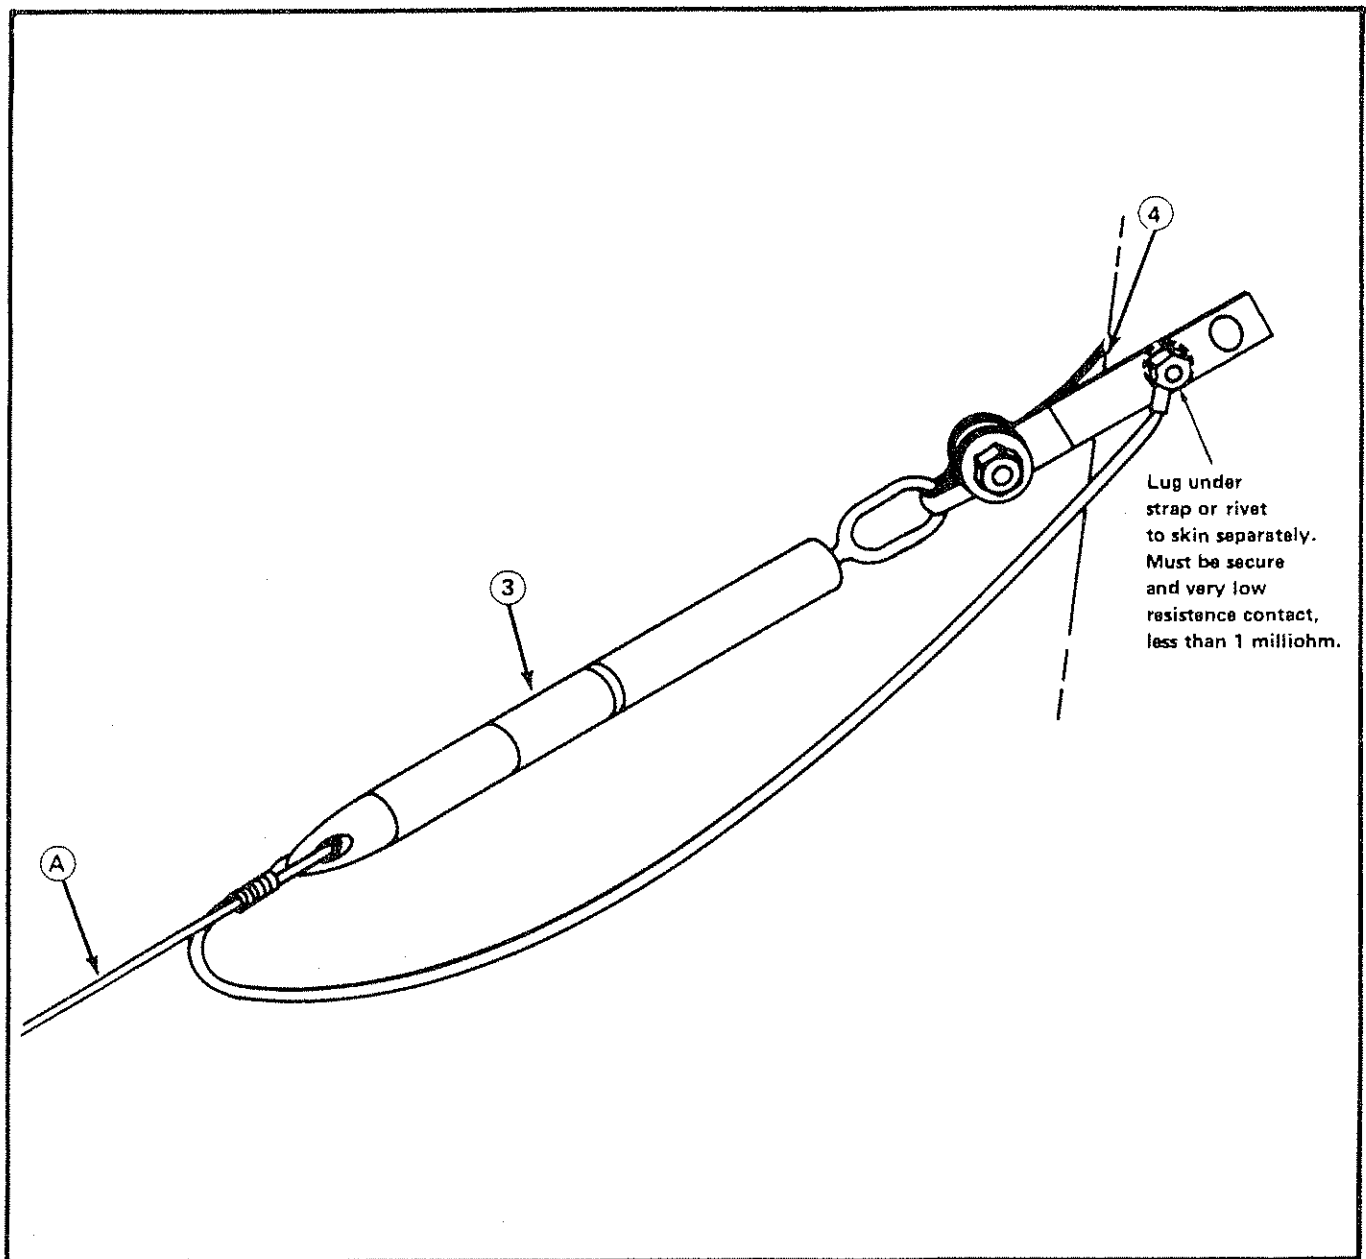

Figure 2.5 Antenna Grounding
For straight grounded antennas (see figure 2.5), the antenna (A) from feed through insulator (Item 1, Table 2.1) is fed through the insulated tension unit (Item 3) and clamped or tied with nylon cord (as shown) to proper length. Ground antenna with ground lug to Item 4 of Table 2.1 or aircraft skin. Ground connection **MUST** be secure, low resistance and capable of high current.